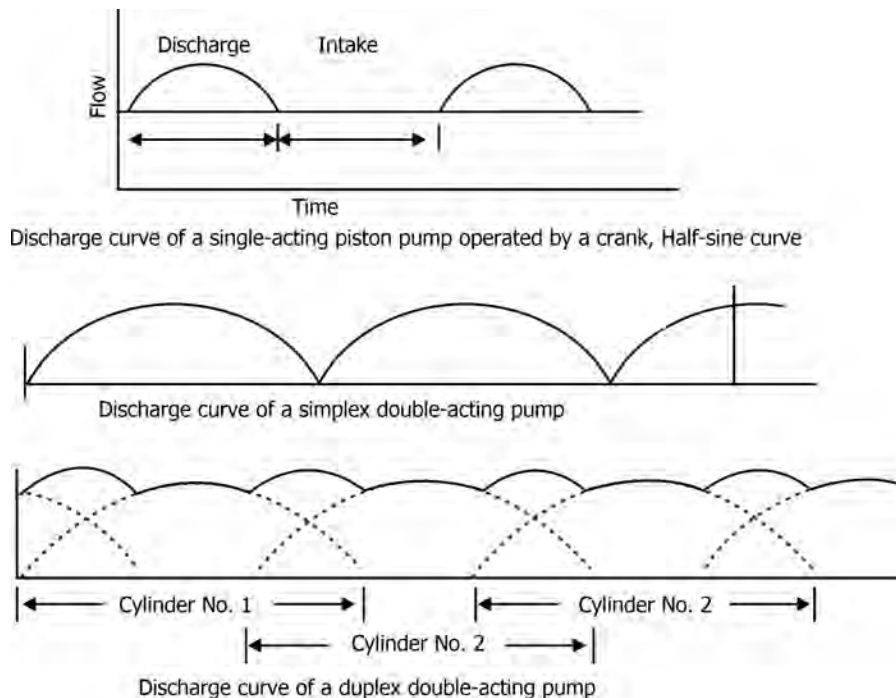

FIGURE 5.23 Discharge curves for different reciprocating flow configurations.
- Figure 5.23 shows discharge curves for different flow configurations for a reciprocating piston pump.